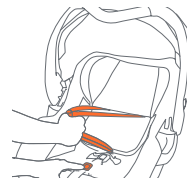

Fig. 32-1
4. Loosen the Harness Straps by depressing the Harness Adjuster Button located below the flap just ahead of the Harness Buckle and pulling on the harness straps (Fig. 32-1).